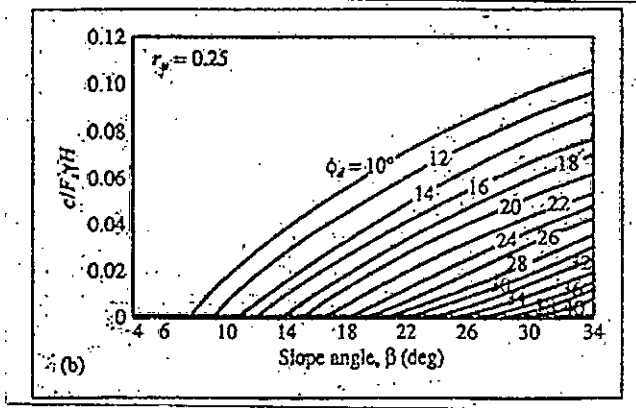

Fig. 1 Charts for using Spencer's solution for slope stability analysis.
(a) Analyze the plane frame of Fig. 1 using stiffness method and draw the shear force and bending moment diagrams. (26 ¼)**OR**
- (b) An earth slope is proposed to rise to a height of 50 ft at an angle of 25° with the horizontal. The properties of the soil forming the slope are: $\gamma = 115$ pcf, $\phi = 20^\circ$, $c = 500$ psf. Considering $r_u = 0.25$, determine the factor of safety against stability failure using Spencer's method. (Charts for Spencer's solution are provided in Fig. 1). (12)